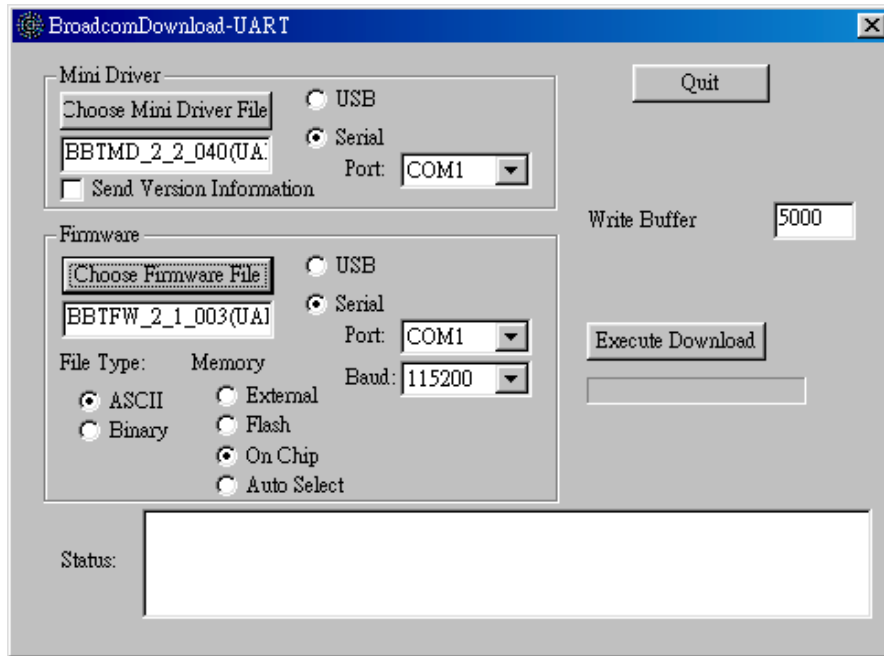

Figure 4: Downloader Configuration for UART Interface
- In the “Firmware” box, please select “UART”, “ASCII”, and “On Chip”. Then click on “Choose Firmware File” to select the appropriate firmware. For USB interface, the user shall select “BBTFW_2_1_003(UART).hex” in the “Firmware” directory. (as Figure 4)